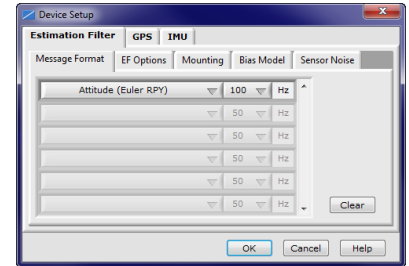

Figure 3: Device Setup window
4. Click Settings and the Device Setup window appears, as shown in Figure 3.